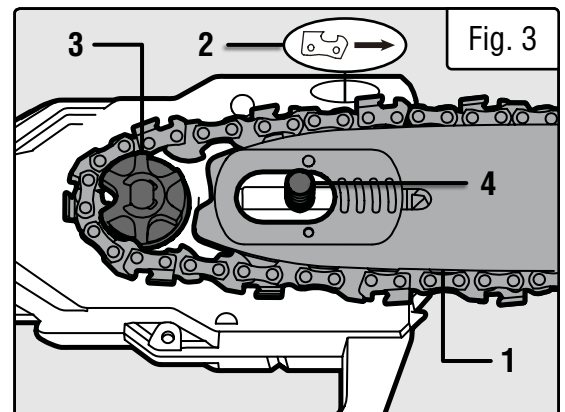

Fig. 3
3. While wearing protective gloves, wrap the saw chain around the guide bar (Fig. 3 - 1), making sure that the teeth are aimed in the direction of rotation (Fig. 3 - 2). The chain should be properly set in the slot running along the entire outside edge of the guide bar.
4. Place the saw chain around the sprocket (Fig. 3 - 3) while lining up the slot in the guide bar with the locking bolt (Fig. 3 - 4) at the base of the saw.